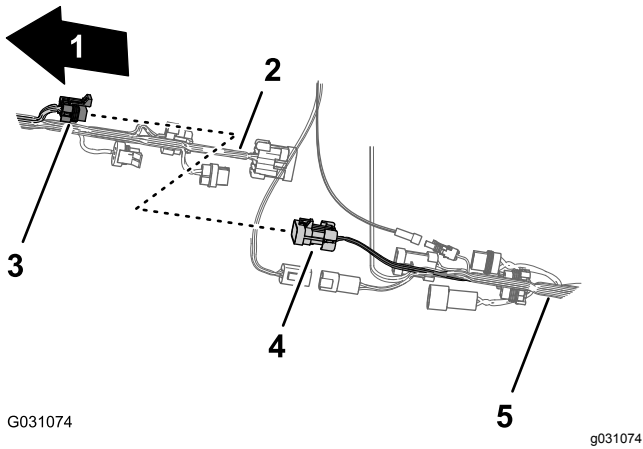

Figure 88
2. Connect the 10-socket connector of the front harness for the sprayer-harness interconnect into the 10-pin connector of the rear harness for the sprayer-harness interconnect (Figure 88).